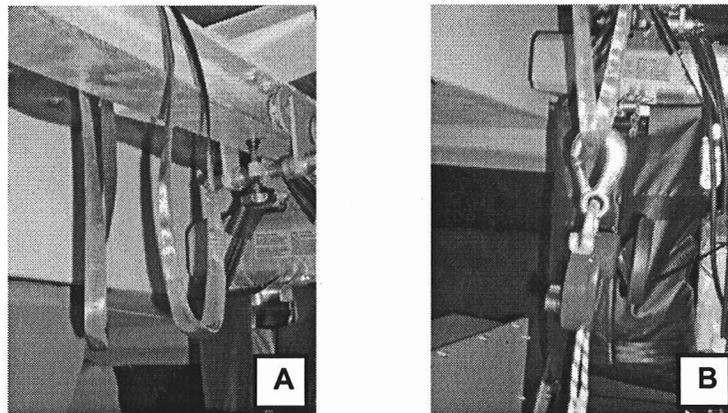

Fig. 31 Fastening the descender for K07
- Place the webbing sling or work-positioning lanyard over the craneway, see Fig.31